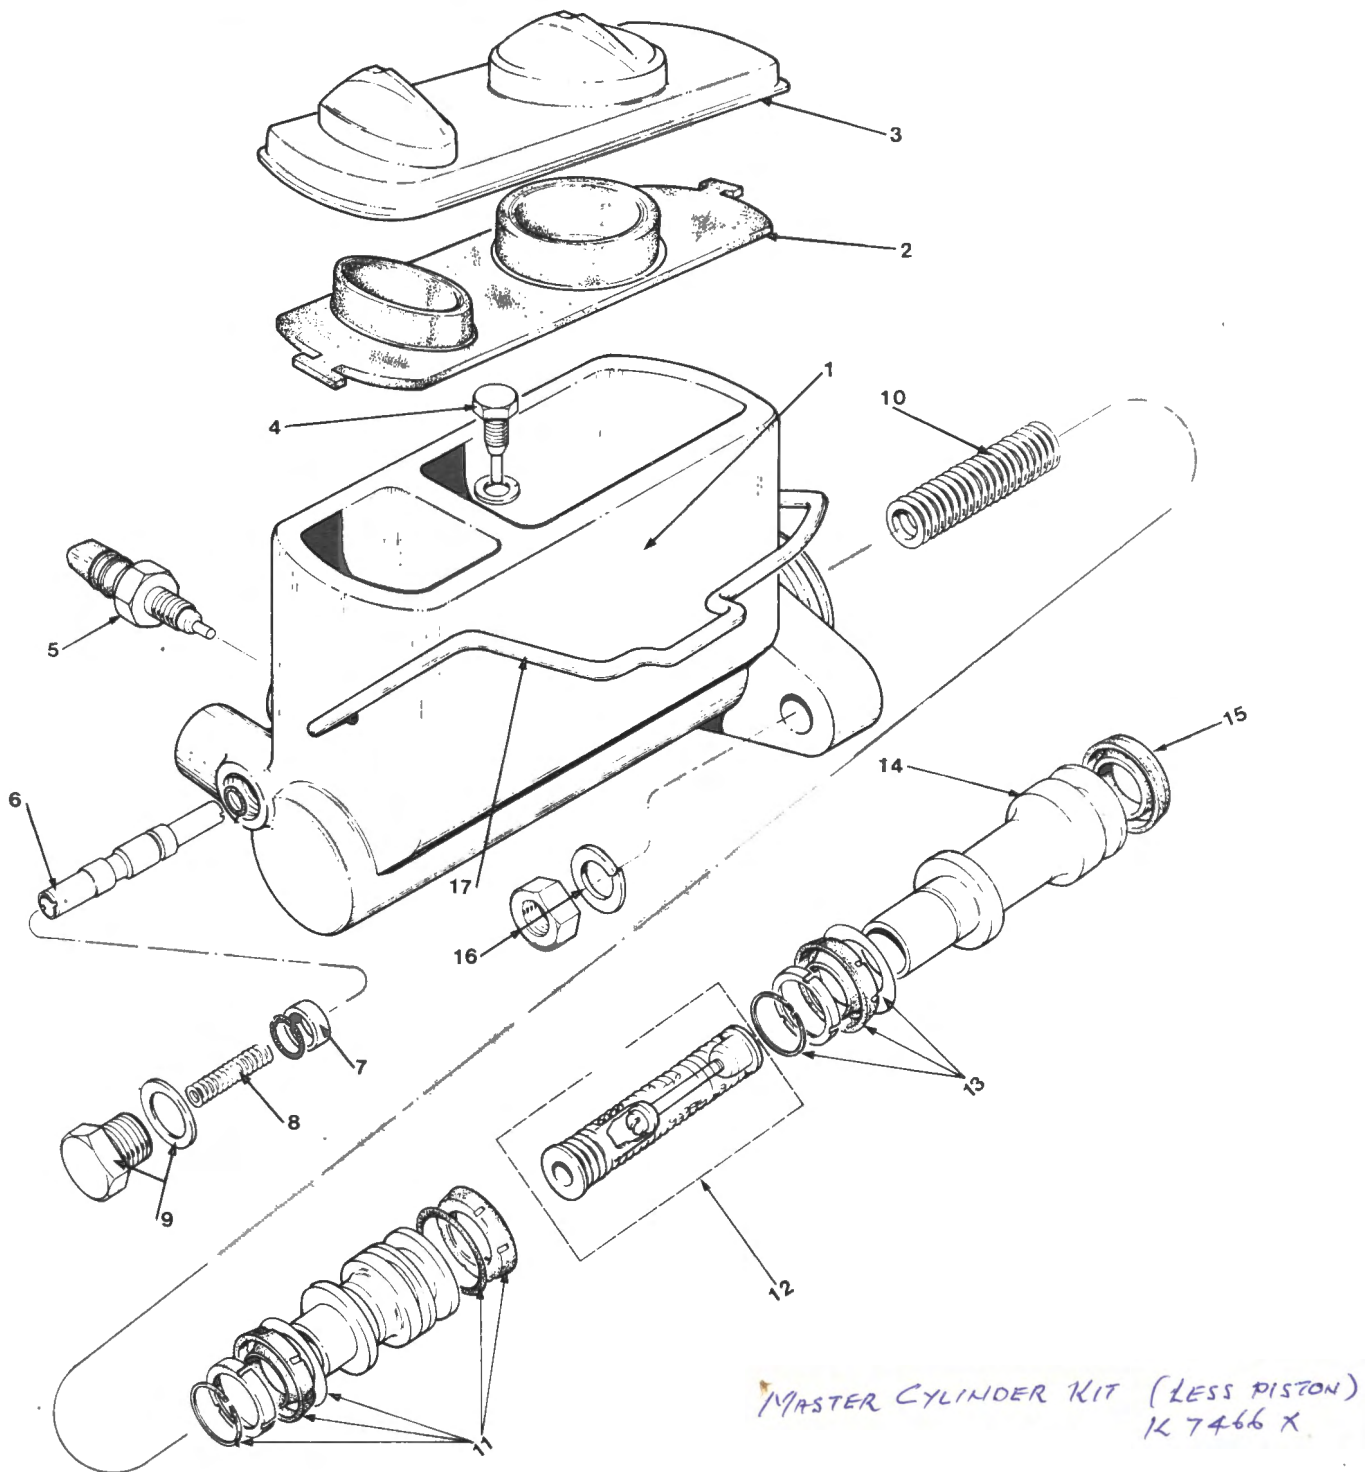

Fig. R-3
A pressure differential valve incorporated in the master cylinder operates a switch which causes a light on the fascia to glow and give warning of front or rear brake circuit failure. Refer Fig. R-3.
- 4 Press the primary piston inwards, then unscrew and remove the secondary piston stop screw and copper washer from the bottom of the primary fluid reservoir. Refer Fig. R-3.
IMPORTANT: Coat all internal parts and master cylinder bore with clean brake fluid before assembling. Assemble the master cylinder as illustrated in Fig. R-3 and note the following: